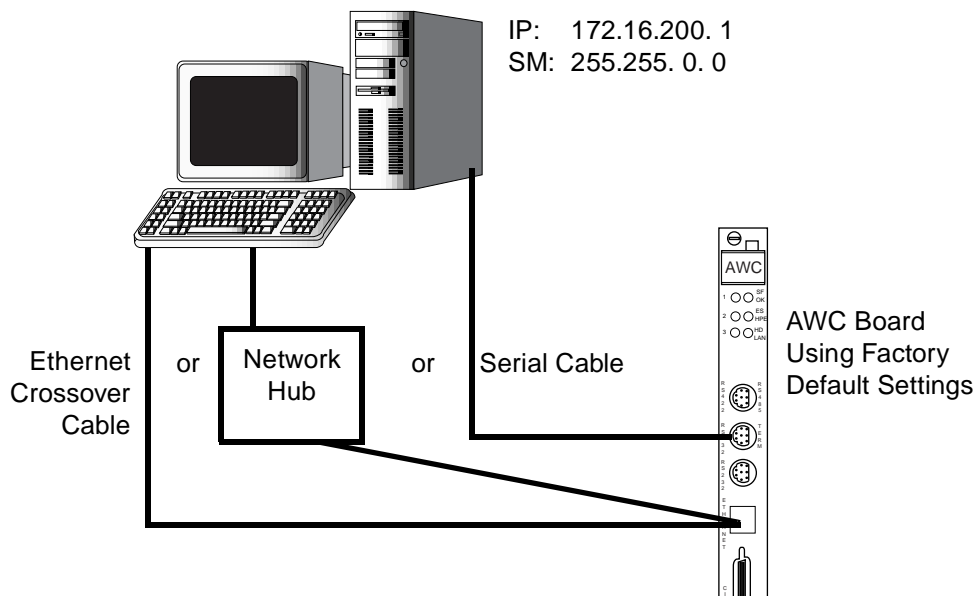

Figure 5-4. One PC, One Controller
As shown in Figure 5-4, there is one PC networked to one Adept controller. The AWC board can be connected to the PC using one of the three cabling options shown below.
To create the network shown in Figure 5-4, complete the following steps:
- b. Install a TCP/IP protocol on the PC using the IP address and subnet mask shown in Figure 5-4. See "Setting Up the TCP/IP Interface (Ethernet Connection)" on page 90 and the documentation for your PC for details.